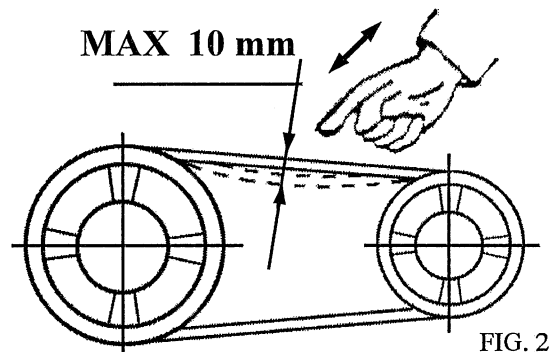

FIG. 2
- Check belt tensioning by measuring belt tightness. Correct tightness results when belt deflection along the front side of the belt is 1 cm, as a result of the pressure applied with the index finger to the centre of the belt length (see fig. 2).